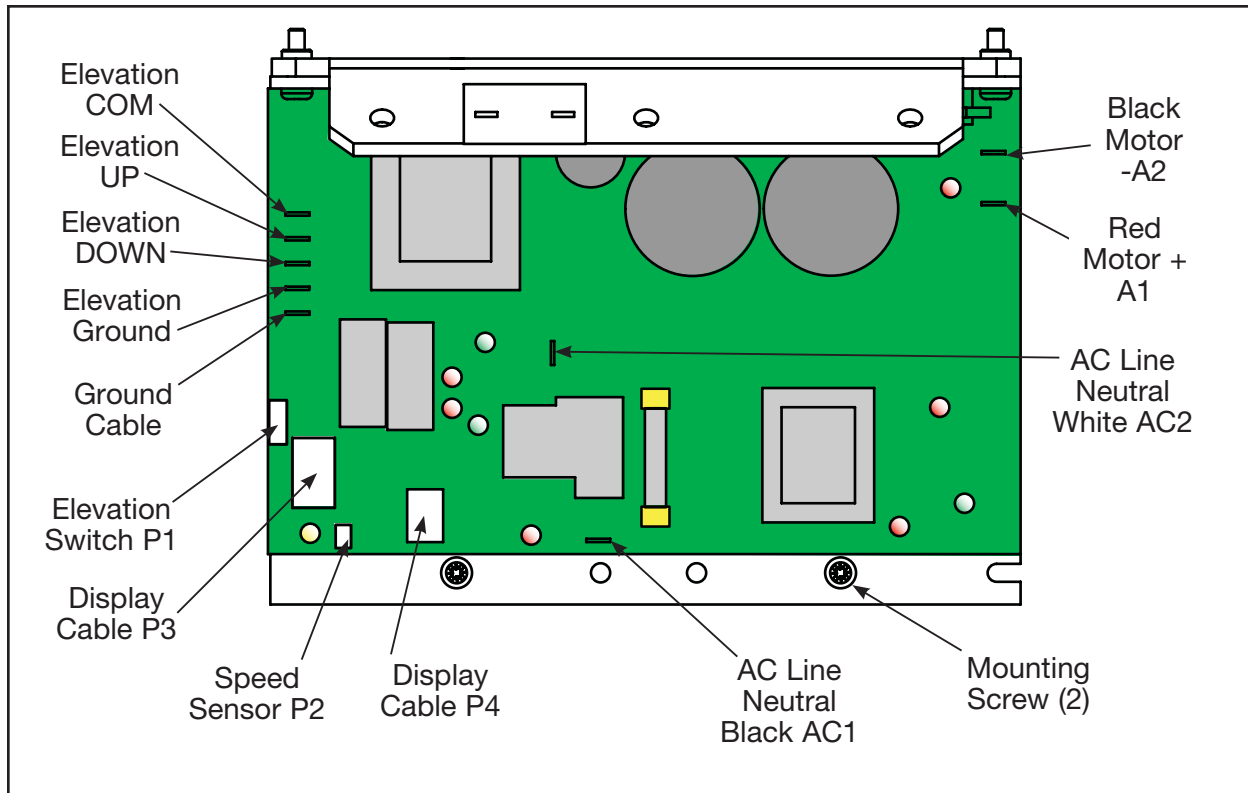

Figure 17
- A. Disconnect the cables from the lower control board. This includes: the elevation motor cables (COM, UP, DOWN and GND); Ground cable; elevation switch (P1); display cable (P3); speed sensor (P2); display cable (P4); AC line hot, black (AC1); AC line neutral, white (AC2); drive motor cable red (A1) and drive motor cable black (A2). See Figure 17.
- D. Using a Phillips head screwdriver, remove the two screws that hold the lower control board to the motor base plate. See figure 17.
- A.** Connect the cables from the lower control board. This includes: the elevation motor cables (COM, UP, DOWN and GND); Ground cable; elevation switch (P1); display cable (P3); speed sensor (P2); display cable (P4); AC line hot, black (AC1); AC line neutral, white (AC2); drive motor cable red (A1) and drive motor cable black (A2). See Figure 17.